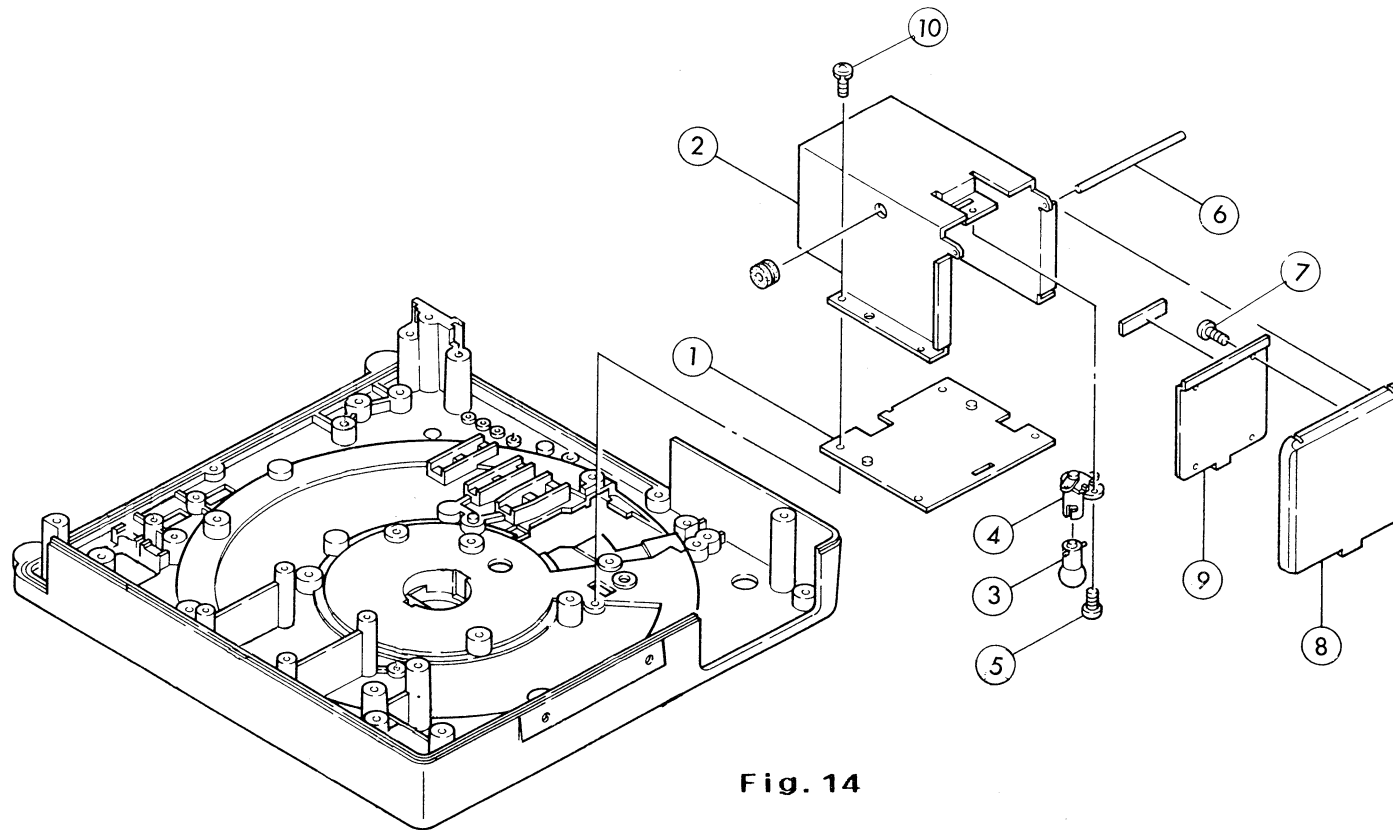

Fig. 14
IV – 9 Lamp Case Section (See Fig. 14)
1. Unscrew ⑩ x 4 pcs. to remove ② from the main body.
2. Unscrew ⑦ x 4 pcs. to remove ⑥, ⑧ and ⑨.
3. See Fig. 14 for further disassembly.